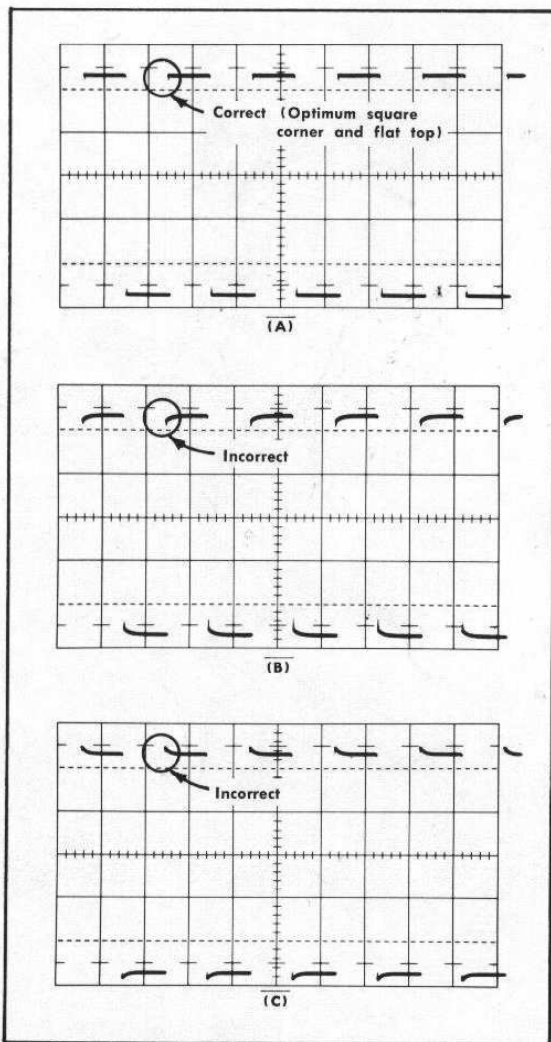

Fig. 5-4. (A) Typical CRT display showing correct input attenuator compensation. (B) and (C) show incorrect compensation.
c. Check—Transient response of the input attenuator. See Fig. 5-4.